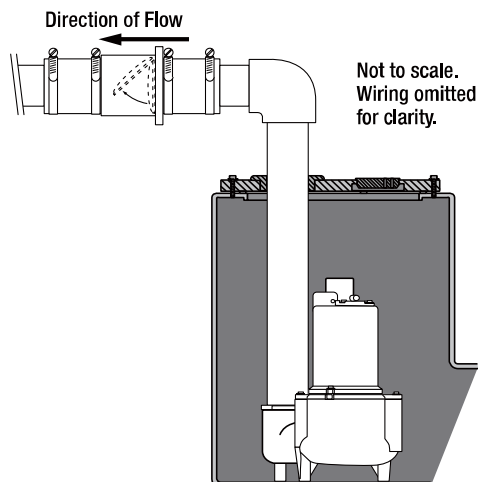

Figure 4: Check Valve Installation
12. Attach the check valve (Repair Parts, Key No.1) to the close nipple that does not have the union attached. Make sure the flange on the check valve body is toward the pump (see Figure 4).
The pump runs but delivers no water or only a small amount of water.	<ol style="list-style-type: none"> 1. The check valve may be installed backward. Make sure the flapper will open away from the pump (see Figure 4). 2. The discharge gate valve, if used, may be closed. 3. The pump may be air locked. Start and stop several times by plugging and unplugging the cord. Check the vent hole in the pump case for plugging. <div data-bbox="558 571 1503 674" style="border: 1px solid black; padding: 5px; margin: 10px 0;">  NOTE: The pump has a small air vent hole in the pump body to let out trapped air. If this hole becomes plugged, the pump may air lock. To break the air lock, clear the hole with a small screwdriver. </div> <p data-bbox="558 684 1503 806">As a secondary precaution in installations of this type, drill a 1/8 in. hole in the discharge pipe inside the tank below the check valve. The check valve should be mounted horizontally above the pump discharge. Do not put the check valve directly into pump discharge opening.</p> <div data-bbox="558 823 1503 913" style="border: 1px solid black; padding: 5px; margin: 10px 0;">  NOTE: In tanks where the pump is operating daily, air locking rarely occurs. </div> <ol style="list-style-type: none"> 4. The pump may be trying to lift water too high. The pump cannot deliver water higher than 15 ft. (vertical lift (a long horizontal piping run) may reduce the available lift due to friction in the pipe). 5. The inlet, impeller or pump body may be plugged up. Unplug the pump. Put on rubber gloves, remove the pump from the chamber, soak it in chlorine bleach for at least one hour, and clean it out. 6. The pump impeller may be partially clogged, causing the motor to run slowly, resulting in motor overload. Unplug the pump. Put on rubber gloves, remove the pump from the chamber, soak it in chlorine bleach for at least one hour, and clean it out.